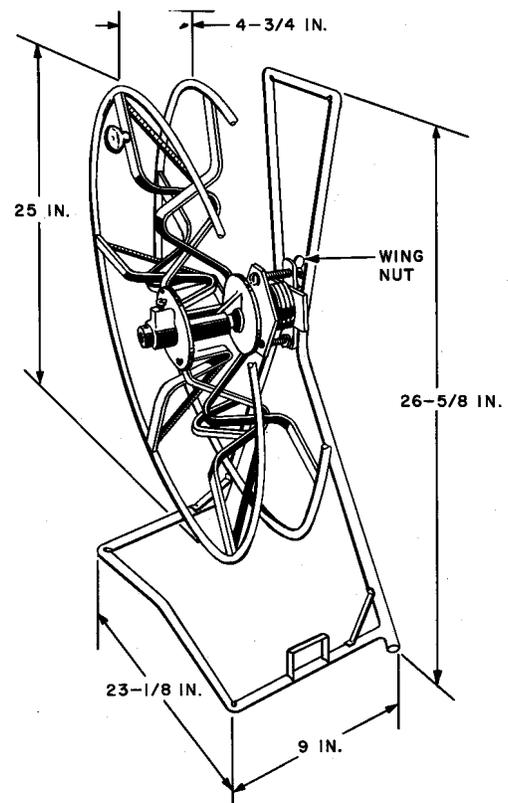

Fig. 4—C Drop Wire Reel
**5.03** *The C drop wire reel* is shown in Fig. 4.